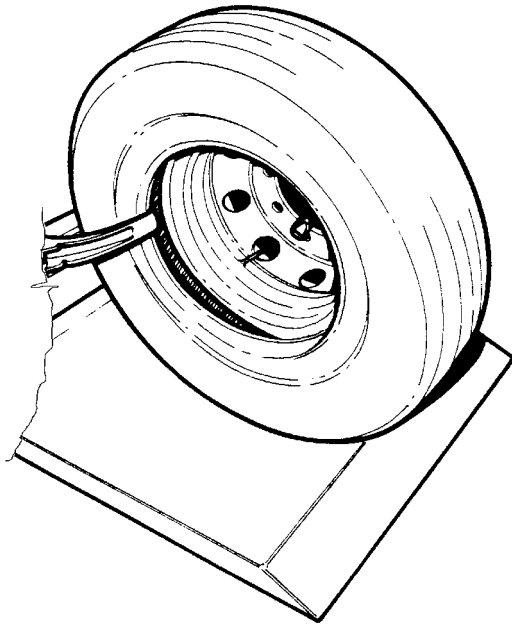

Fig.31
4. Rotate the chuck counterclockwise until the outer bead is completely demounted (fig.31).